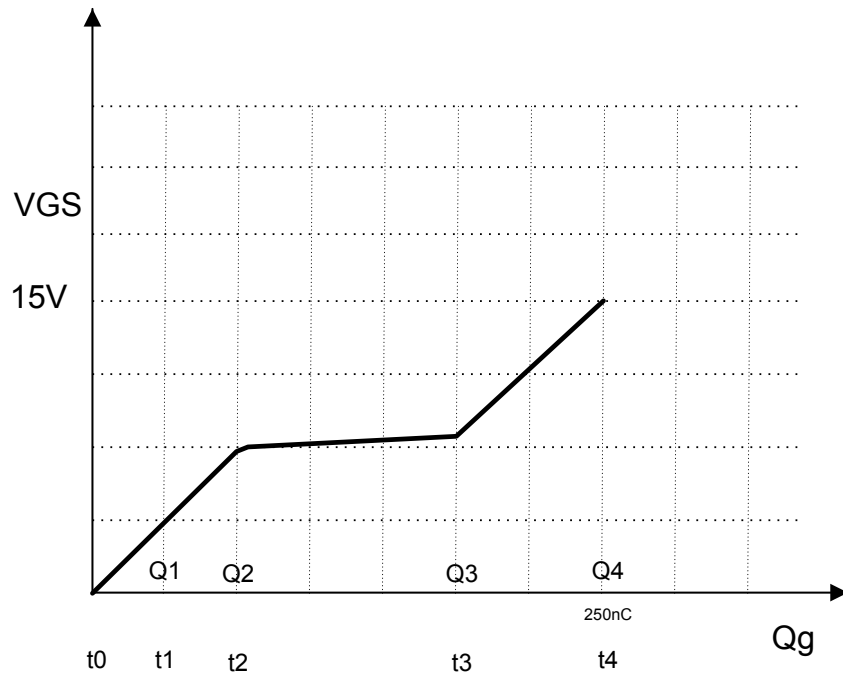

Figure 3.2. V_{GS} vs. Gate Charge
1. Select a MOSFET with $V_{DSS} = 650 \text{ V}$ for an approximate 40% voltage margin while operating at $HVDC = 400 \text{ V}$. The MOSFET data sheet provides the V_{GS} vs total gate charge as shown in Figure 3.2 \$V_{GS}\$ vs. Gate Charge on page 8 and a similar figure as shown below provides the MOSFET output characteristic V_{DS} vs. I_{DS} .